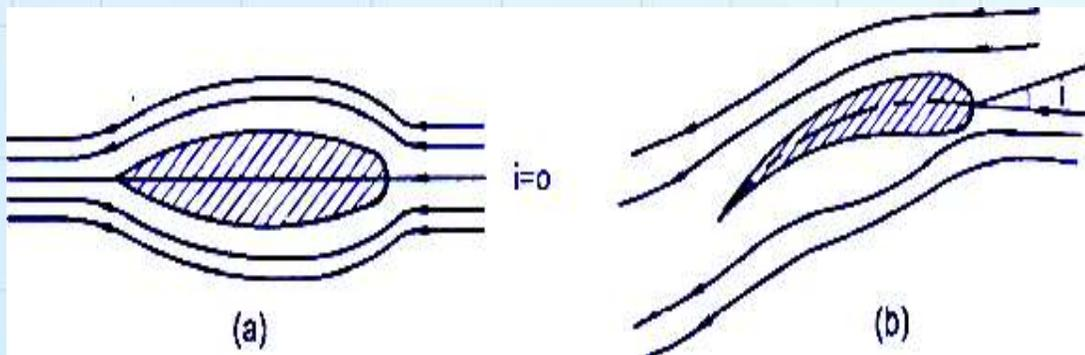

Fig.7.4 – Flow pattern around un-cambered and cambered aerofoil
- ▶ The flow pattern around a symmetrical aerofoil placed in a stream of air is shown in Fig. 7.4 (a).
- ▶ Fig. 7.4 (b) shows a non-symmetrical aerofoil inclined with the direction of the undisturbed approaching flow at an angle i . This angle is known as the "angle of attack" or incidence angle.